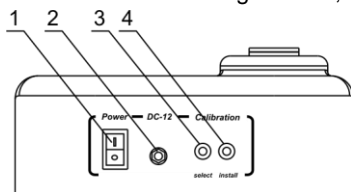

Fig. 1. Rear panel
- Plug the external power supply into the 12 V socket at the rear side of the unit (fig.1/2).
- 3.4.1. Switch ON (position **I**) the unit with the **Power** switch (Fig.1/1) on the rear panel.
- 3.4.2. Press the **Select** button (fig.1/3) on the rear panel. A flashing “0.5” appears on the display, indicating that the unit is ready to measure calibration value of the first point, 0.5 McF.
- 3.4.4. Press the **Install** button (fig.1/4). First point “0.5” value is saved in the unit memory and the next calibration point appears, flashing 1.0 indication on the display.
- 4.2. Switch ON the unit using the **Power** switch (Fig.1/1) on the rear panel (position I).